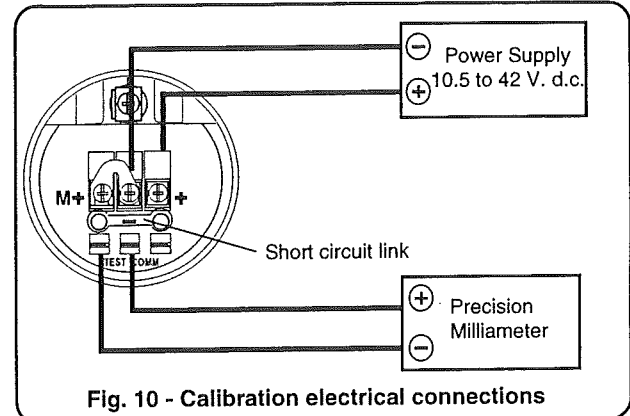

Fig. 10 - Calibration electrical connections
- make the electrical connections, as indicated in Fig. 10. Connect a precision milliammeter as shown and **remove the short circuit link.**